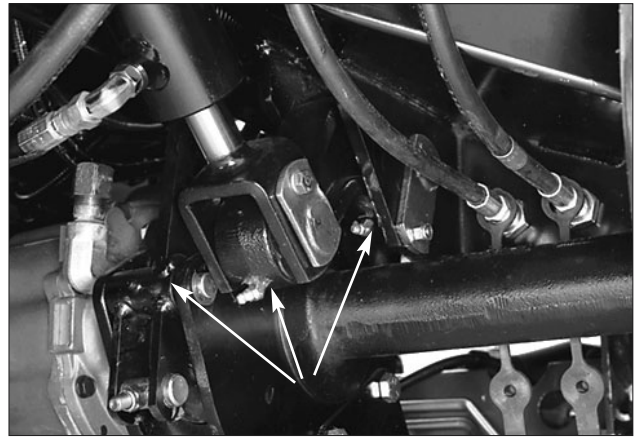
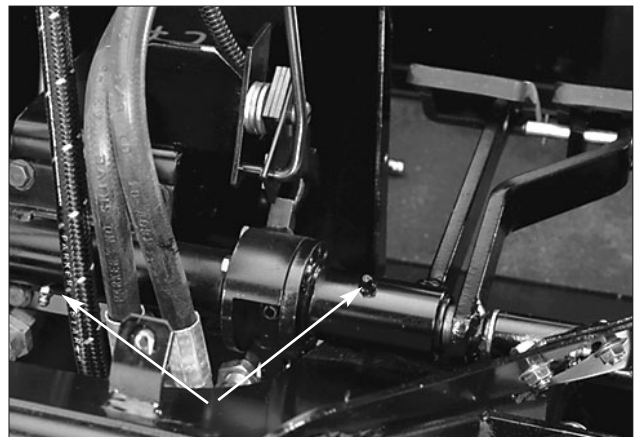
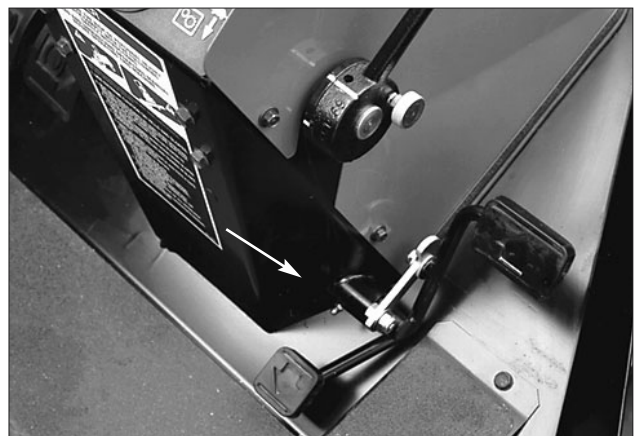
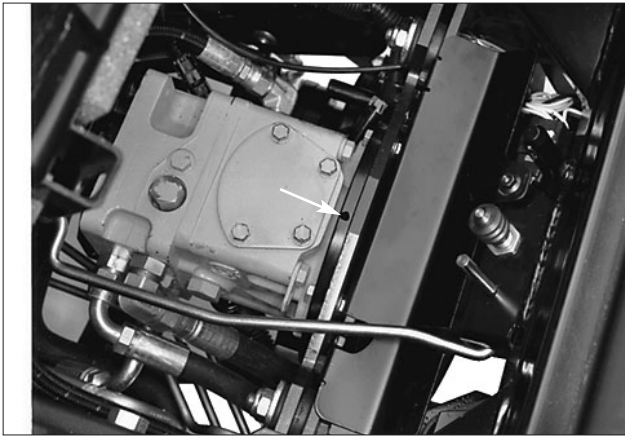

Figure 23
Figure 24
Figure 25
Figure 26
Greasing (Fig. 23–35)
The grease fittings that must be lubricated are: Lift arm pivot (2), lift cylinder (2), brake arm pivots (2) (Fig. 23); brake pivot (1), brake pivots (2) (Fig. 24); traction pedal pivot (1) (Fig. 25); engine to pump drive shaft (2) (Fig. 26 & 27); traction adjuster (1) (Fig. 28); P.T.O. Bearing (Fig. 29).